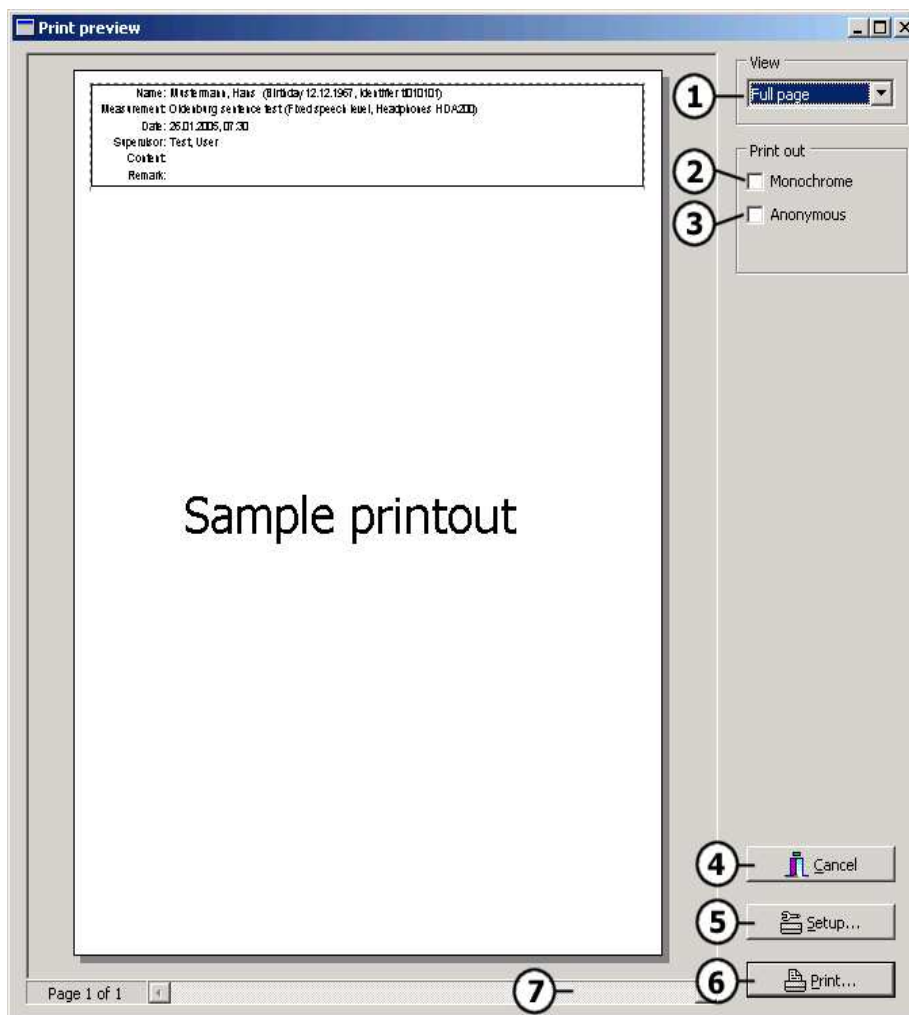

Figure 20
If you click button ⑦ 'Print' (see above) the standard printer configuration dialog is shown. If you click button ⑥ 'Print preview' a dialog with a print preview containing some controls for the configuration of the printout (Figure 20):